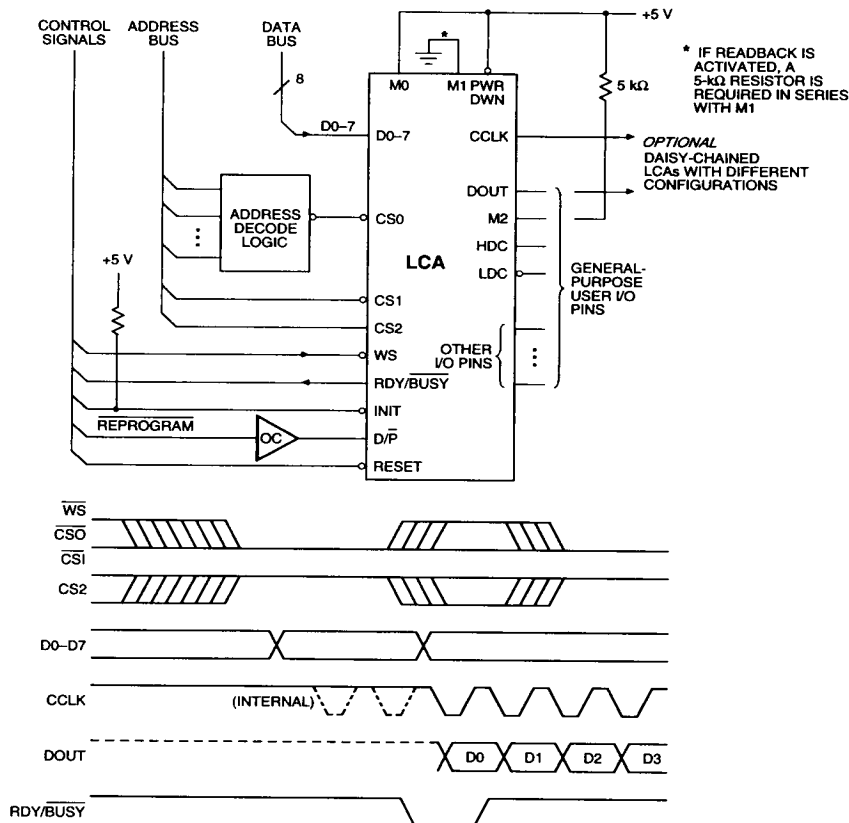

Figure 23. Peripheral Mode. Configuration data are loaded using a byte-wide data bus from a microprocessor.
Peripheral mode provides a simplified interface through which the device may be loaded byte-wide, as a processor peripheral. Figure 23 shows the peripheral mode connections. Processor write cycles are decoded from the common assertion of the active low Write Strobe (WS), and two active low and one active high Chip Selects (CS0, CS1, CS2). If all these signals are not available, the unused inputs should be driven to their respective active levels. The Logic Cell Array will accept one byte of configuration data on the D0–D7 inputs for each selected processor Write cycle. Each byte of data is loaded into a buffer register. The LCA device generates a configuration clock from the internal timing generator and serializes the parallel input data for internal framing or for succeeding slaves on Data Out (DOUT). A output High on READY/BUSY pin indicates the completion of loading for each byte when the input register is ready for a new byte. As with Master